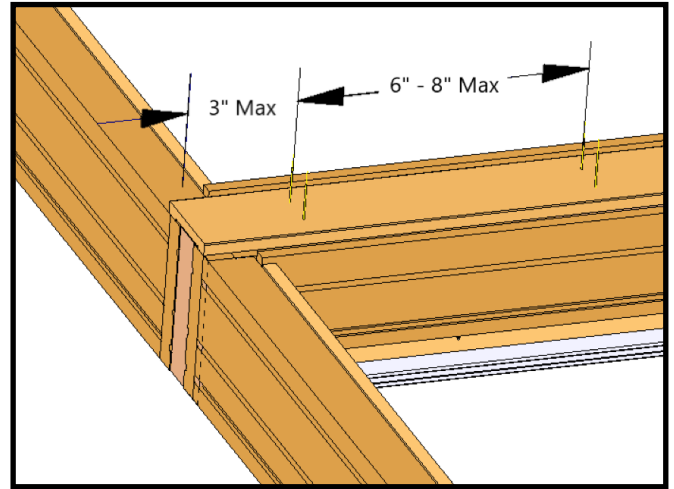

Figure 3
- I. Nail exterior mull cover with finishing nails, 3" from end and 6"- 8" spaced down the mull (figure 3).